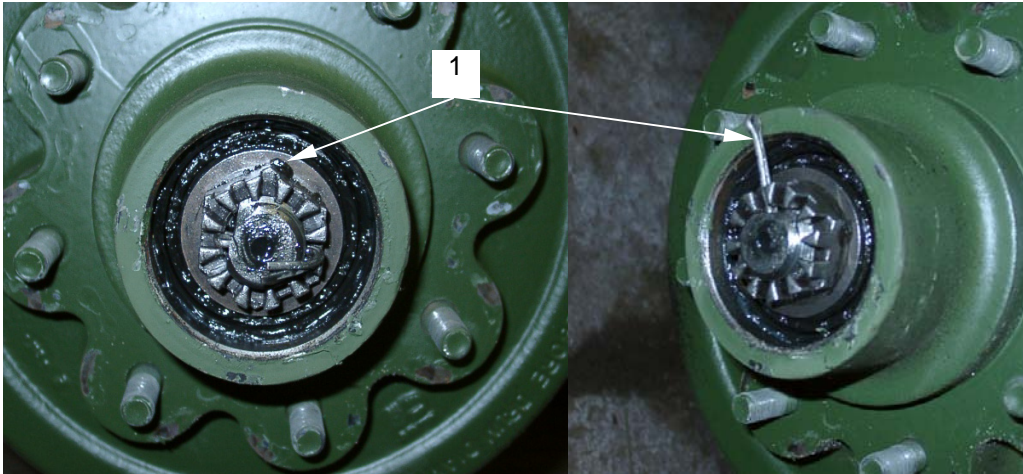

Figure 28. Cotter Pin
- n. Bend cotter pin (**figure 28, item 1**) straight to allow removal.